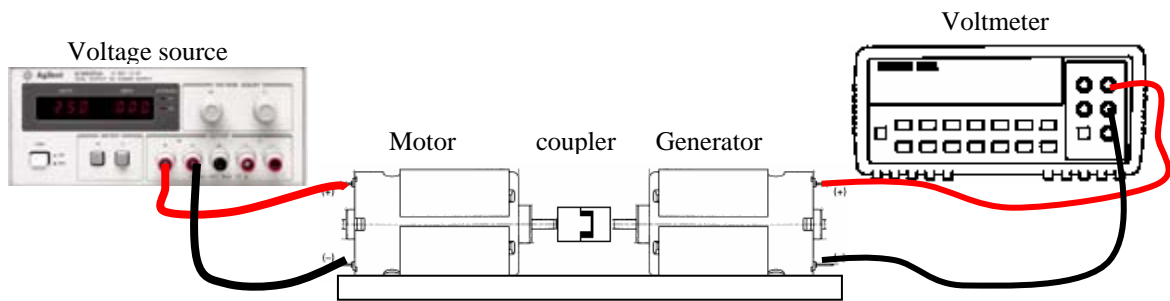

Figure 4
- Connect the terminals of one of the motors to the voltage source; be aware of the polarities of the motor (the terminal closest to the red dot is positive). The other motor will be the generator; its terminals must be connected to the multimeter, see Fig. 4.